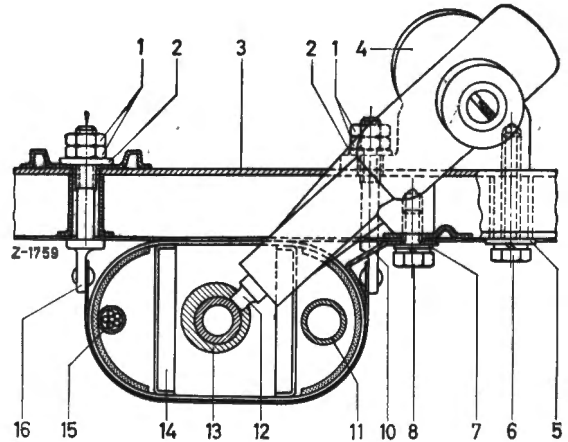

Fig. 29-1/2
4. Unscrew the two hexagon nuts (1) and remove together with washer (2) (Fig. 29-1/2).